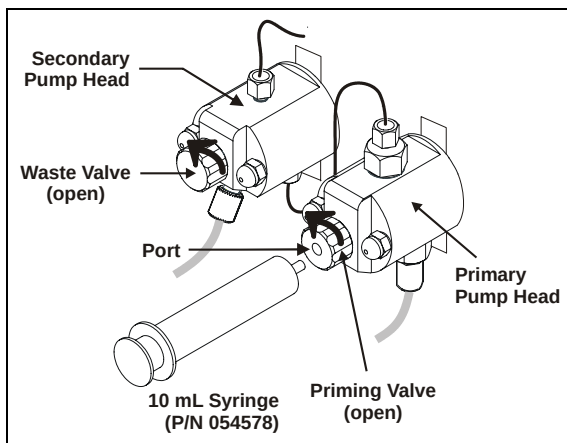

Figure 5-27. Priming the Pump Heads with IPA
1. Connect a 10-mL syringe (P/N 054578) filled with isopropyl alcohol (IPA) to the port in the primary pump head (see Figure 5-27).
2. Open the priming valve on the secondary pump head (see Figure 5-27) by turning the knob one-quarter to one-half turn counterclockwise.